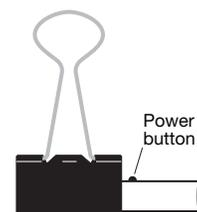

Figure 7.
3. Use a medium binder clip as a stand for the laser by placing the laser pointer inside the medium clip with the power button on top and visible beyond the edge of the clip (see Figure 7). The clip will help keep the laser steady during use.